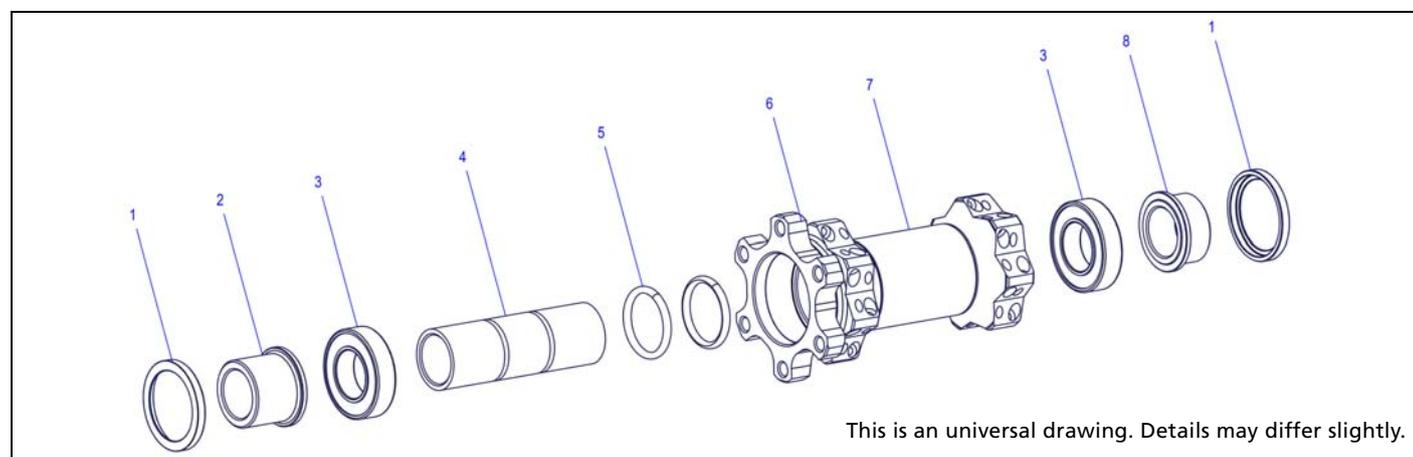

Figure 4-5: 350 thru axle front wheel hub
1. Plug the mounting pin into one of the adapters (fig.4-5/2 or 8).
3. Remove the adapter (fig.4-5/2 or 8) and the cover (fig.4-5/1).
1. Push the spacer (fig.4-5/4) beside and place a spin drift on the edge of the ball bearing (fig.4-5/3).
5. Tap out the bearing (fig.4-5/3) on the disc side.
1. Grease the bearing seats and the inner surface of the hub shell (fig.4-5/6).
2. Put a new bearing (fig.4-5/3) with its colored side facing outwards onto the bearing seat on the disc side.
8. Slide the spacer (fig.4-5/4) with the O-rings (fig.4-5/5) into the hub.
9. Put a new bearing (fig.4-5/3) with the colored side facing outwards onto the bearing seat.
13. Tap in the bearing (fig.4-5/3) using a plastic hammer.
14. Grease both bearings (fig.4-5/3).
1. Put the left adapter (fig.4-5/2) and the cover (fig.4-5/1) onto the hub.
2. Put the small diameter of the mounting sleeve onto the left adapter (fig.4-5/2).
4. Tap the cover (fig.4-5/1) onto the hub.
1. Put the right adapter (fig.4-5/8) and the cover (fig.4-5/1) onto the hub.
2. Put the big diameter of the mounting sleeve onto the right adapter (fig.4-5/8).